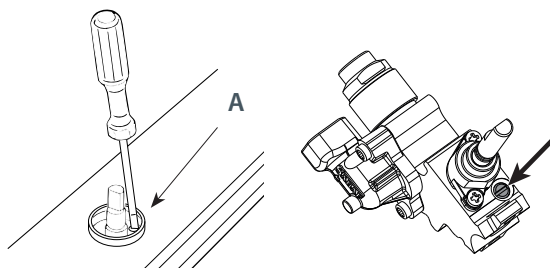

Fig. 9 Minimum burner setting
- Turn the screw "A" (Fig.9) to the correct setting with a screwdriver.